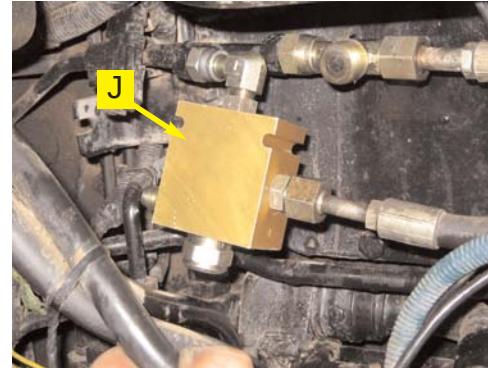

Figure 4c. Installed load sense valve.
- c. Disconnect the load sense hose from the steel line. (Figure 4c.)
- d. Install port **A**, fitting (**M**), of the load sense valve onto the steel line. (Figure 4c.)
- e. Reattach the existing load sense line to port **B**, fitting (**K**), of the dynamic load sense valve. (Figure 4c.)